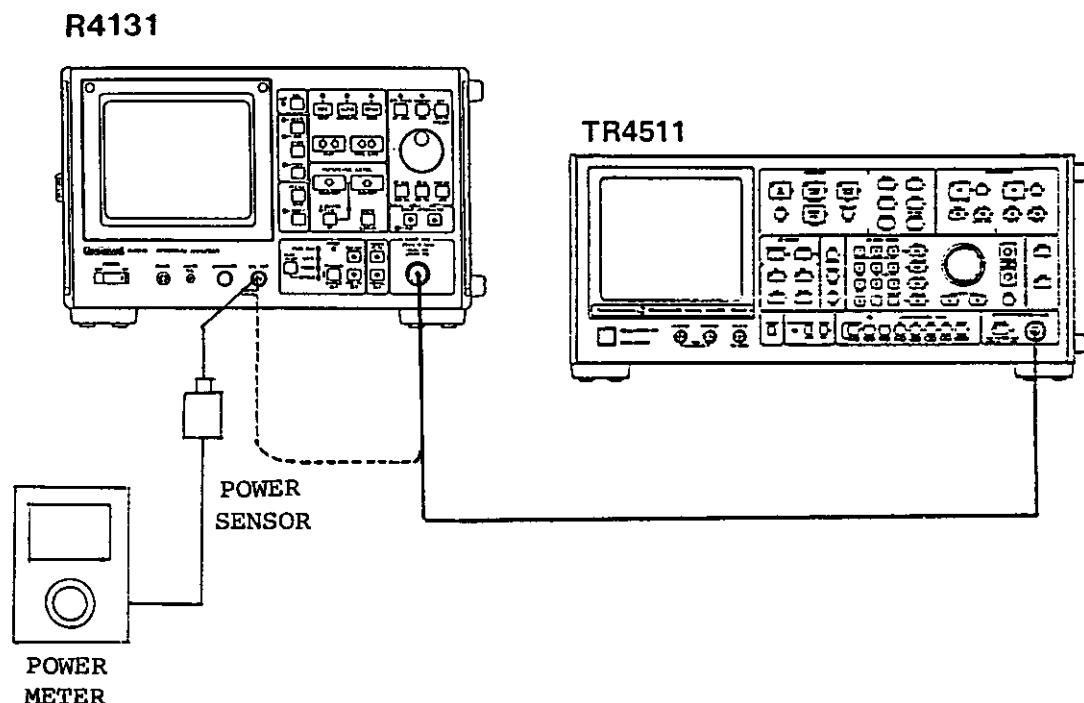

Figure 11-25 Calibrated Output Accuracy Test Setup
- ① Press the R4131 ZERO CAL switch.
- ② Set the synthesized signal source to 200 MHz, -30 dBm.
- ③ Connect the synthesized signal source to the spectrum analyzer INPUT connector. Set the span to 100 kHz while turning the TUNING dial to position the 200 MHz signal in the center of the display screen.
- ④ Next, connect the CAL signal to INPUT connector. (See Figure 11-25)